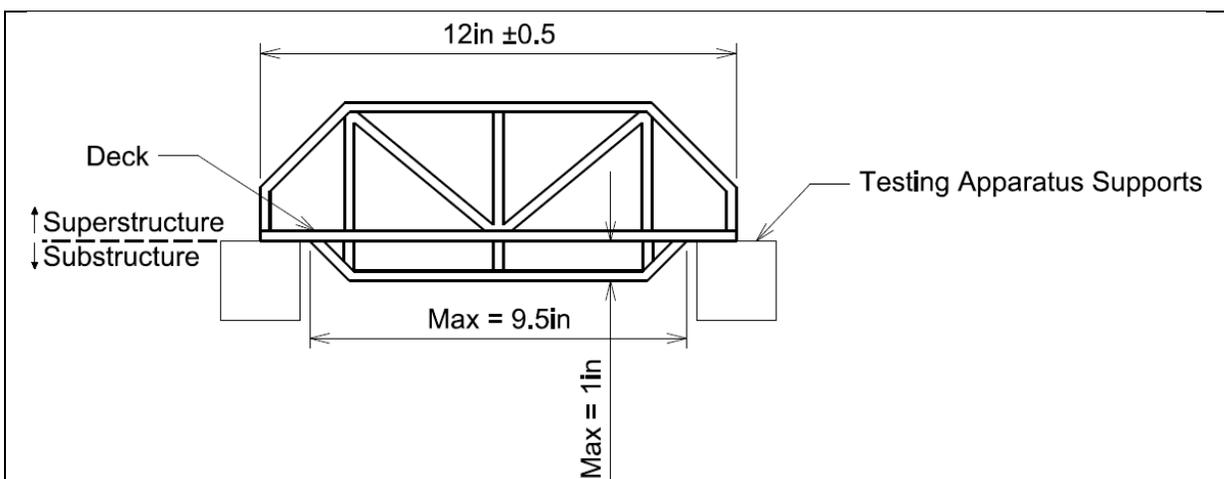

Figure 1. Bridge Dimensions
2. The required dimensions of the bridge are shown in Figure 1. Note that the portion of the bridge that is above the testing apparatus supports is referred to as the superstructure and the portion below the testing apparatus supports is referred to as the substructure. Bridges are not required to have a substructure.
- b) The total width of the bridge shall be 5 inches \pm 0.5 inches (not shown in Figure 1).
3. The bridge shall only touch the top of the supports as shown in Figure 1.
5. The bridge deck must incorporate an opening at mid-span to allow a 3/4-inch diameter testing rod to pass through and attach to the wood block (see item 4 above). The rod must be able to pass through the full height of the bridge.